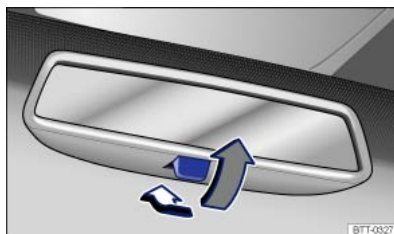

Fig. 105 On the windscreen: manual anti-dazzle interior mirror.
- Pull the lever to the back to select the anti-dazzle function ⇒ Fig. 105 .